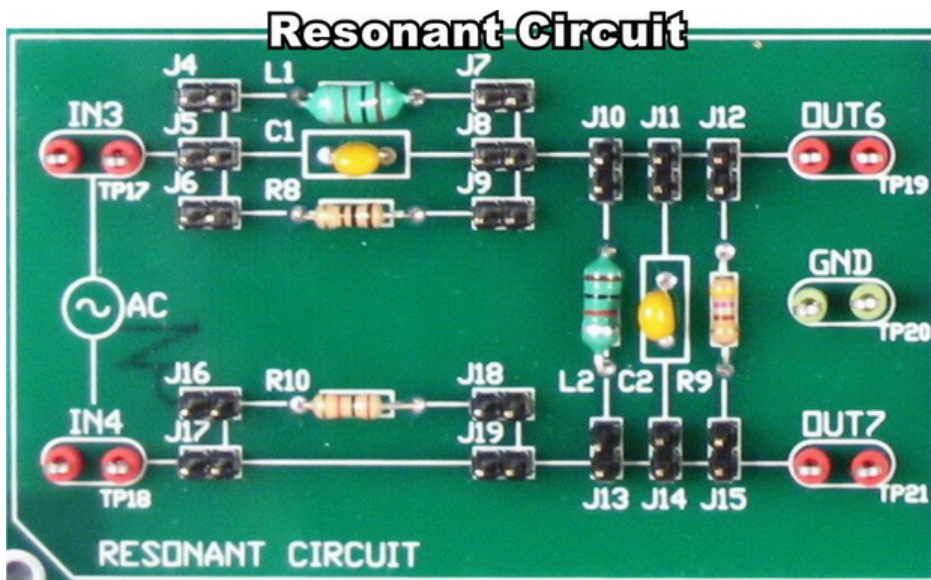

Figure 9 – Resonant Circuit Module
3. The resonant circuit is able to be a low pass filter (LPF) or a high pass filter (HPF) according to the connections of the jumpers on J4 to J19. Figure 9 shows the resonant circuit module on the ME3200 Electronic Instrumentation Kit.